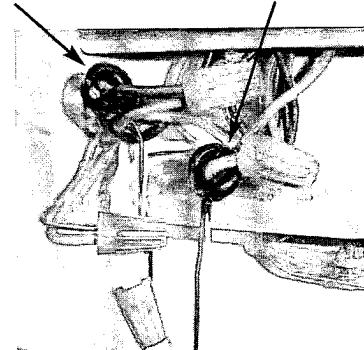

Figure 9B
4. Connecting the Wattmeters: Thread the black building wire through the transformer ring attached to the left wattmeter before connecting it to the black transfer switch wire. Likewise thread the red building wire through the transformer ring attached to the right wattmeter before connecting it to the red transfer switch wire. Connect the green and white to white wires with a red connector. Do not thread these wires through the transformer rings (Figure 9B).